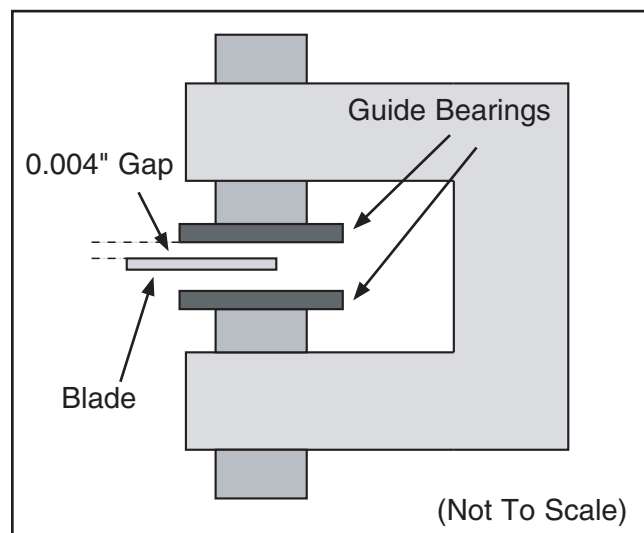

Figure 33. Correct gap between the guide bearings and the blade.
6. Slide the guide bearings against the side of the blade. Make sure the front edge of the bearings are still behind the gullet line. The gap between the face of each guide bearing and the side of the blade needs to be the same as the thickness of a dollar bill or approximately 0.004" as shown in **Figure 33**. Tighten the thumb screws once the guide bearings are correctly set.